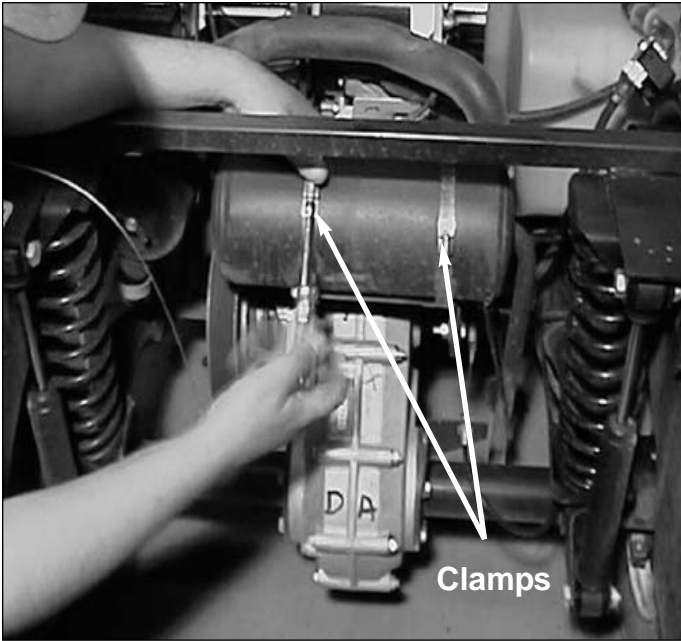

Figure 150 - Remove Worm Gear Clamps
2. Remove two worm gear clamps holding muffler to muffler support cradle. Lift muffler from engine compartment. See Figure 150.
Note: Position screw ends of clamps at approximately 10 O'clock position, as shown in Figure 150.